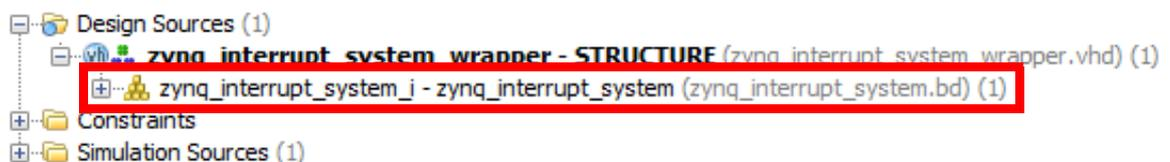

Figure 2.35: Opening an existing block diagram
- Open the block design from the sources panel by expanding the sources and double clicking on the block design as highlighted in Figure 2.35.